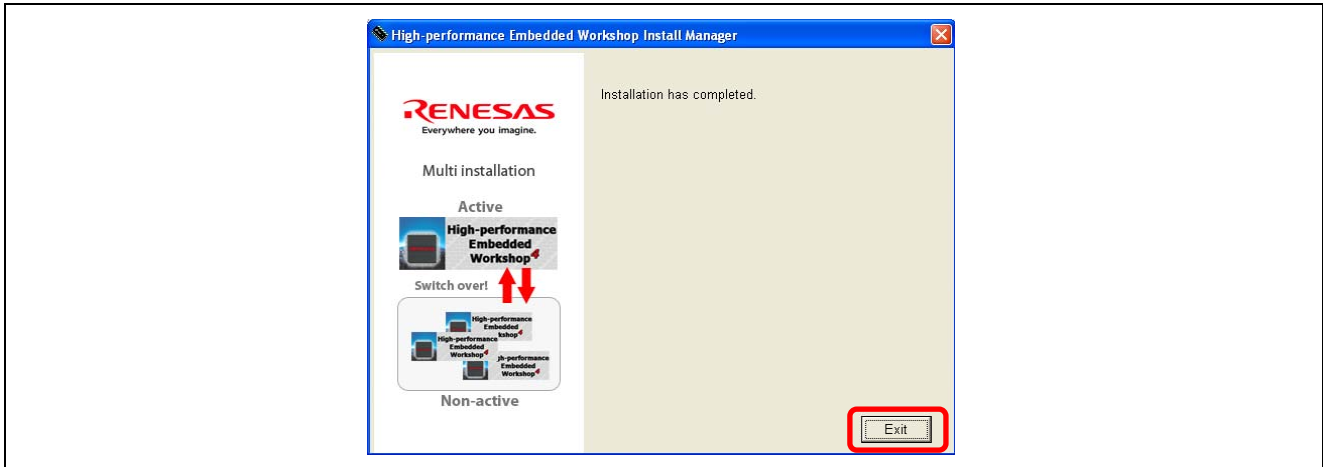

Figure 3.13 Installation Completed
- (5) The auto-update utility is also automatically installed when it has been selected in the [Choose software] dialog box. Follow the instructions shown on the screen. Details on the installation process are omitted here.
- (6) The dialog box shown in Figure 3.13 appears when the installation of the compiler package has been completed. Click on the [Exit] button to finish this process.